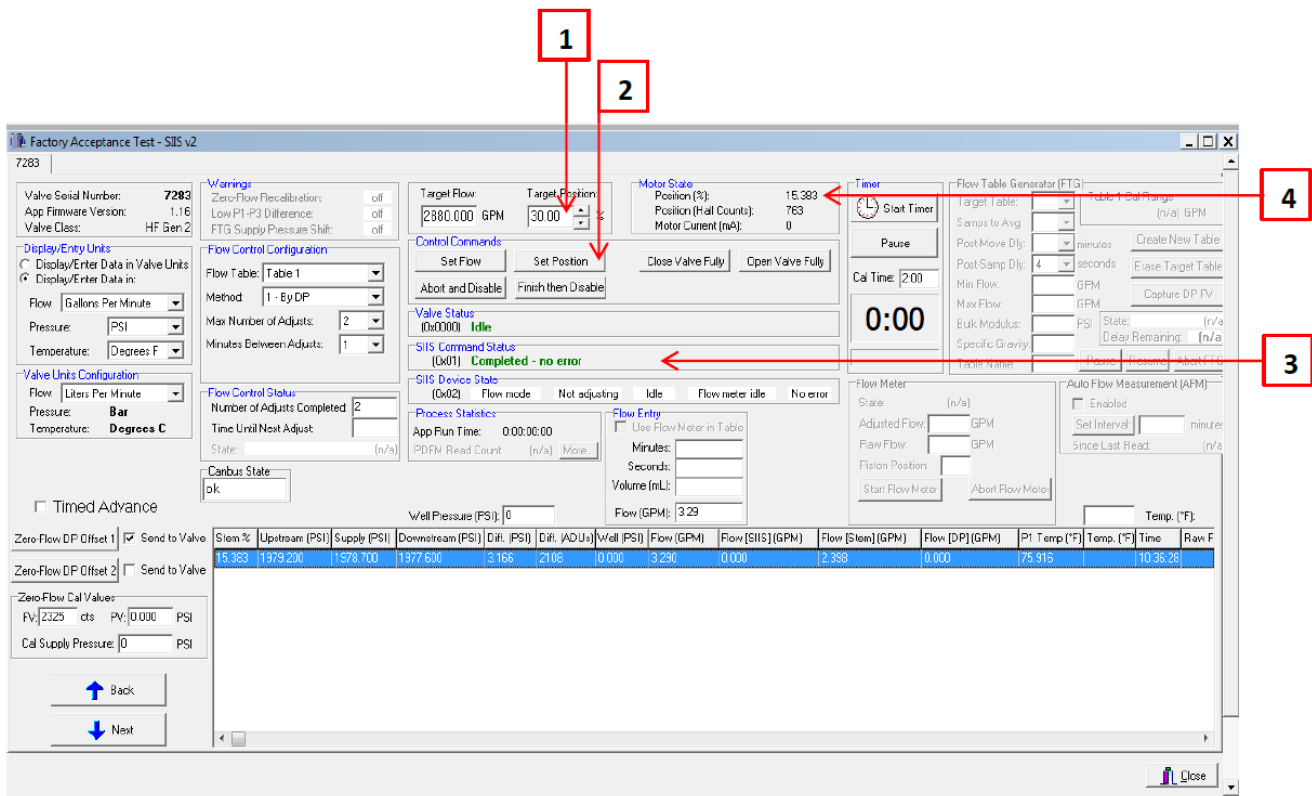

Figure 55: Example of ValveCal Screen
24.2.7.2.1 For the following operations, refer to the applicable User’s Manual (DOC-00969 for SIIsv2 analog products and DOC-00999 for Modbus analog products) and Figure 55.